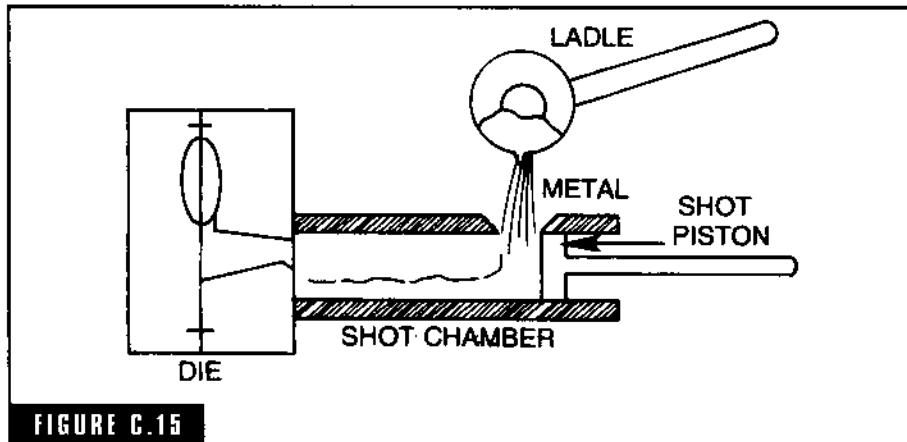

FIGURE C.15
**cold chamber die casting** In the cold chamber machine the metal is ladled into the shot chamber, not submerged in the molten bath as the hot chamber machines (Fig. C-15).